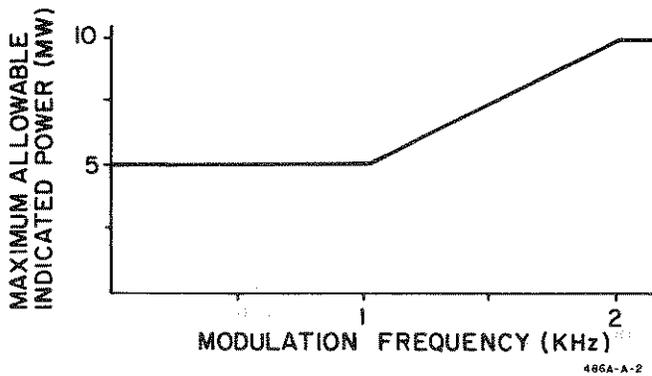

Figure 3. Maximum Power Meter Reading vs. Square- and Sine-Wave Modulation Frequency
17. Square-wave modulation is a special case of pulse modulation, and maximum power-meter reading versus square-wave frequency is illustrated in Figure 3. This figure also holds for sine-wave modulation.